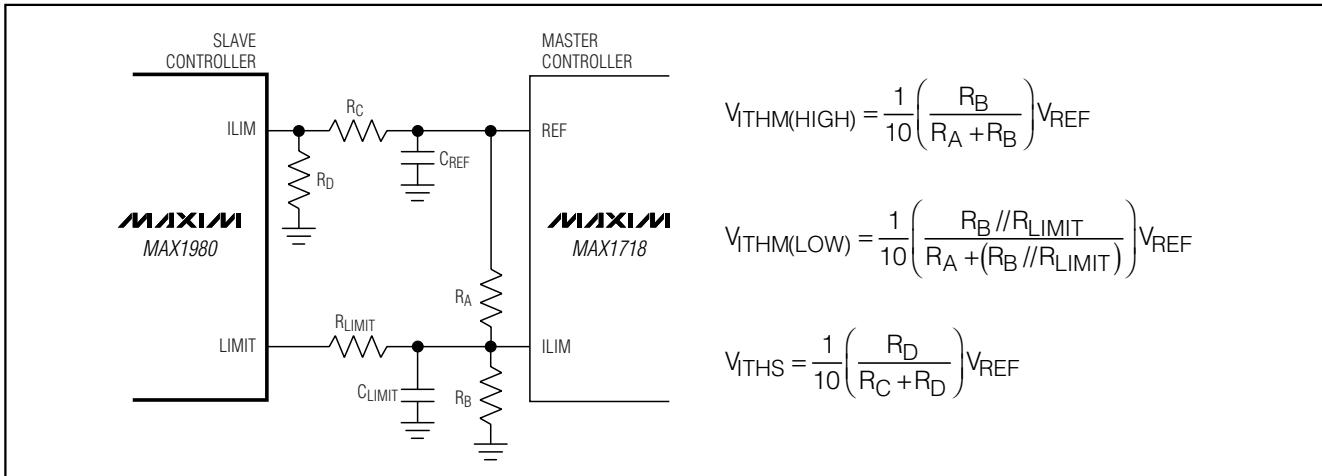

Figure 5. Setting the Adjustable Current Limits
where V_{ITHM} , the master's current-limit threshold, is typically 1/10th the voltage seen at the master's ILIM input ($V_{ILIM(MASTER)} = 0.1 \times V_{LIM(MASTER)}$, see the master controller's data sheet). Connect a resistive voltage-divider from the master controller's internal reference to GND, with the master's ILIM input connected to the center tap (Figure 5). Use 1% tolerance resistors in the divider with 10 μ A to 20 μ A DC bias current to prevent significant errors due to the ILIM pin's input current:
where V_{ITHS} , the slave's current-limit threshold, is precisely one-tenth the voltage seen at the slave's ILIM input ($V_{ITHS} = 0.1 \times V_{ILIM(SLAVE)}$). Connect a second resistive voltage-divider from the master controller's internal reference to GND, with the slave's ILIM input connected to the center tap (Figure 5). The external adjustment range of 400mV to 1.5V corresponds to a current-limit threshold of 40mV to 150mV. Use 1% tolerance resistors in the divider with 10 μ A to 20 μ A DC bias current to prevent significant errors due to the ILIM pin's input current. Reducing the current-limit threshold
Now select the resistive-divider values (R_A and R_B in Figure 5) to set the appropriate voltage at the master's $ILIM$ input:
Select the resistive-divider values (R_C and R_D in Figure 5) to set the appropriate voltage at the slave's $ILIM$ input:
- 4) Determine R_{LIMIT} (Figure 5) from the above equation: